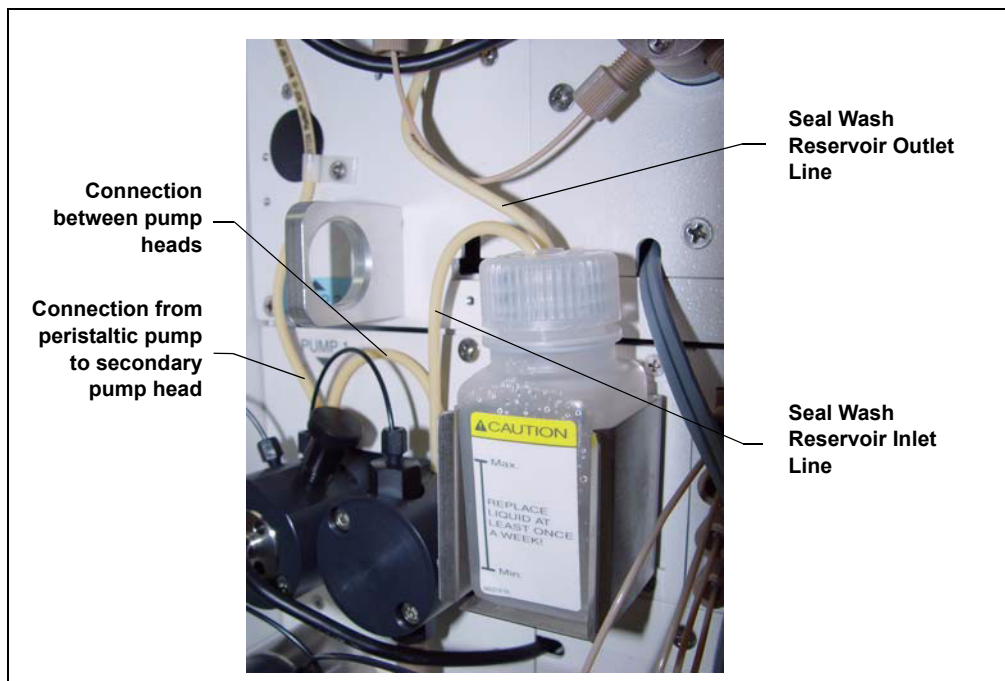

Figure 4-1. Piston Seal Wash Connections to Pump 1
1. Note the tubing connected from the peristaltic pump to the seal wash tube on the secondary pump head on pump 1 (see Figure 4-1). Disconnect this tubing from the pump head and connect it to the seal wash tube on the secondary pump head on pump 2.
2. Disconnect the seal wash reservoir inlet line from the primary pump head on pump 1 (see Figure 4-1). Connect the inlet line to the primary pump head on pump 2.
3. Disconnect the short piece of tubing between the primary and secondary pump heads on pump 1 (see Figure 4-1). Connect this tubing to the pump heads on pump 2.